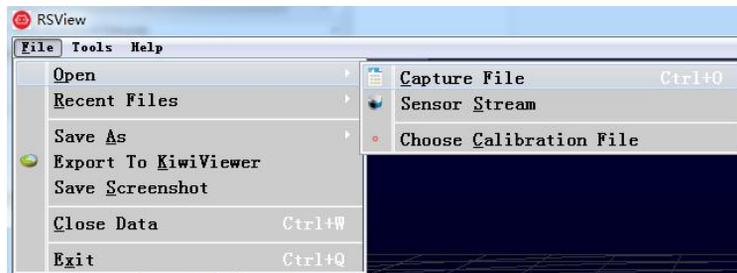

Figure C-6: RSView Open Capture File.
1. Click on **File > Open** and select **Capture File** (Figure C-6).